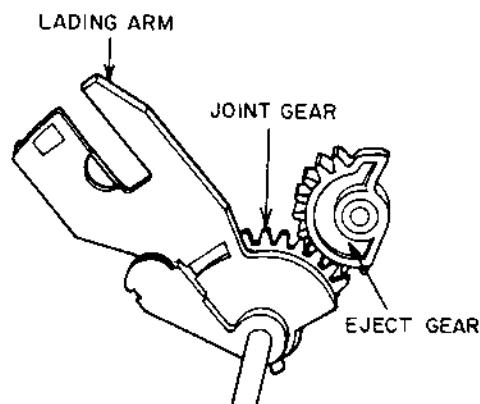

Fig. 4-18
- 1) While covering the SENSOR (S) with your fingers, connect the AC power plug to the AC socket. The FRONT LOADING SLIDER will reach the "EJECT" position. Then disconnect the AC power plug from the AC socket before you release your fingers from the SENSOR (S).
- 2) Install the LOADING ARM BLK in the reverse order of 4-1-2 (Removal of the LOADING ARM BLK). Set the position between both the EJECT GEAR and the JOINT GEAR as shown in Fig.4-18.